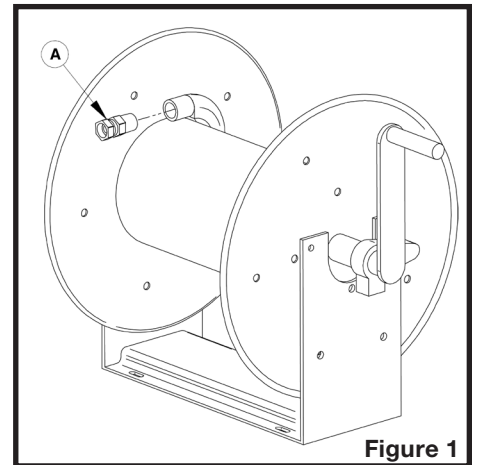

Figure 1
1. Install the hydraulic straight fitting (A on figure 1) to the reel exit.